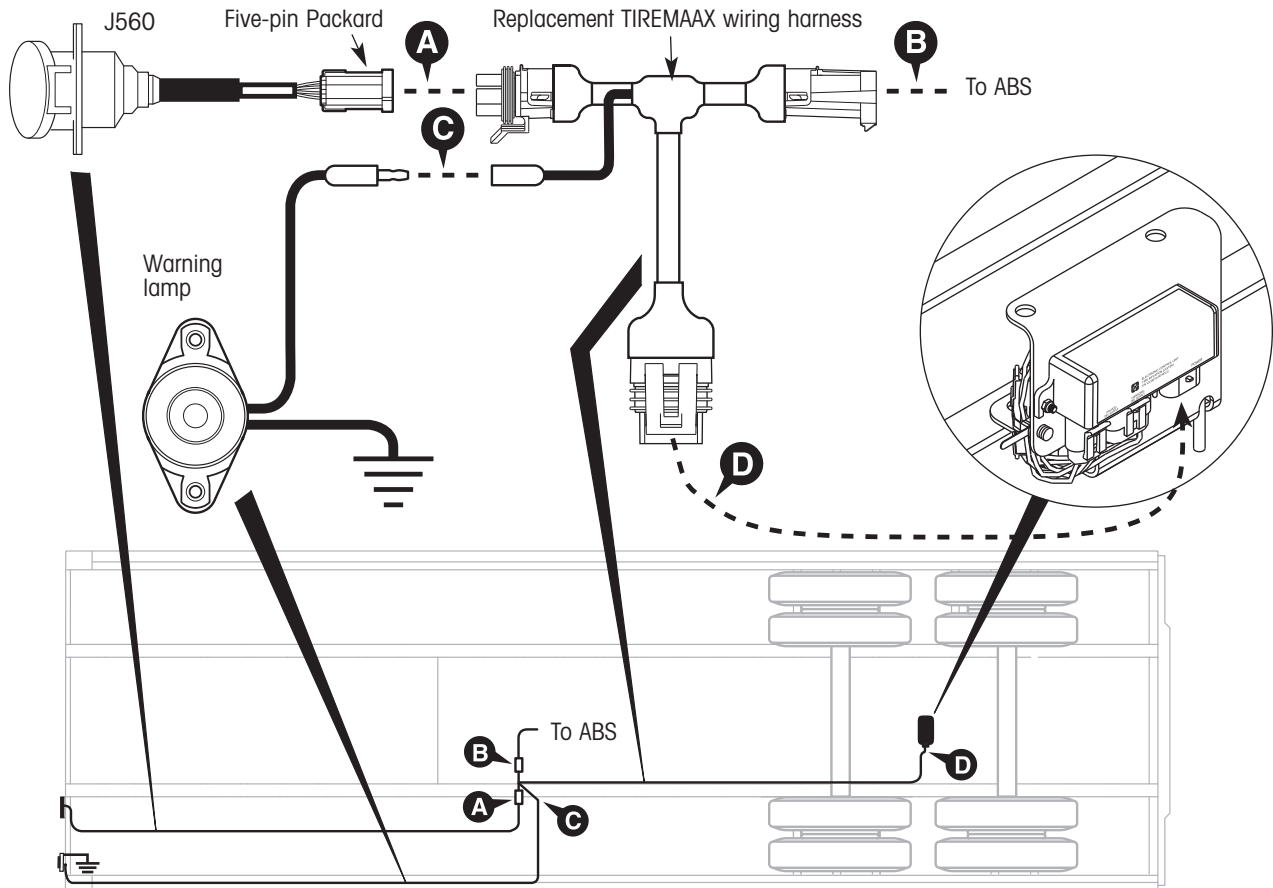

Figure 6. Connecting the replacement TIREMAAX wiring harness
1. Connect the harness five-pin Packard connector to the ABS system wiring (B, figure 6).
2. Connect the harness power connector to the five-pin Packard connector on the J560 interface (A, figure 6).
3. Connect the harness single wire to the warning lamp power wire (C, figure 6).
4. Connect the harness ECU connector to the four-pin POWER socket on the controller assembly ECU (D, figure 6).